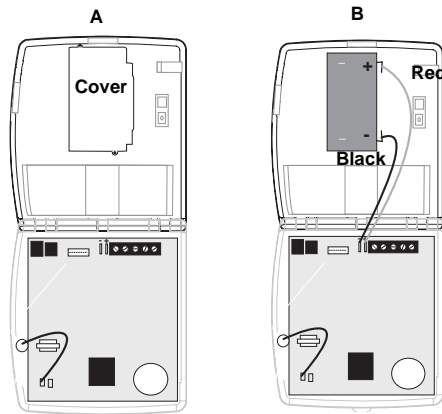

Figure 11. Installing the Panel Backup Battery
1. Remove the cover from the Battery Compartment (A in Figure 11).
2. Connect the red and black battery leads (included with panel) to the battery and panel terminals (see B in Figure 11).